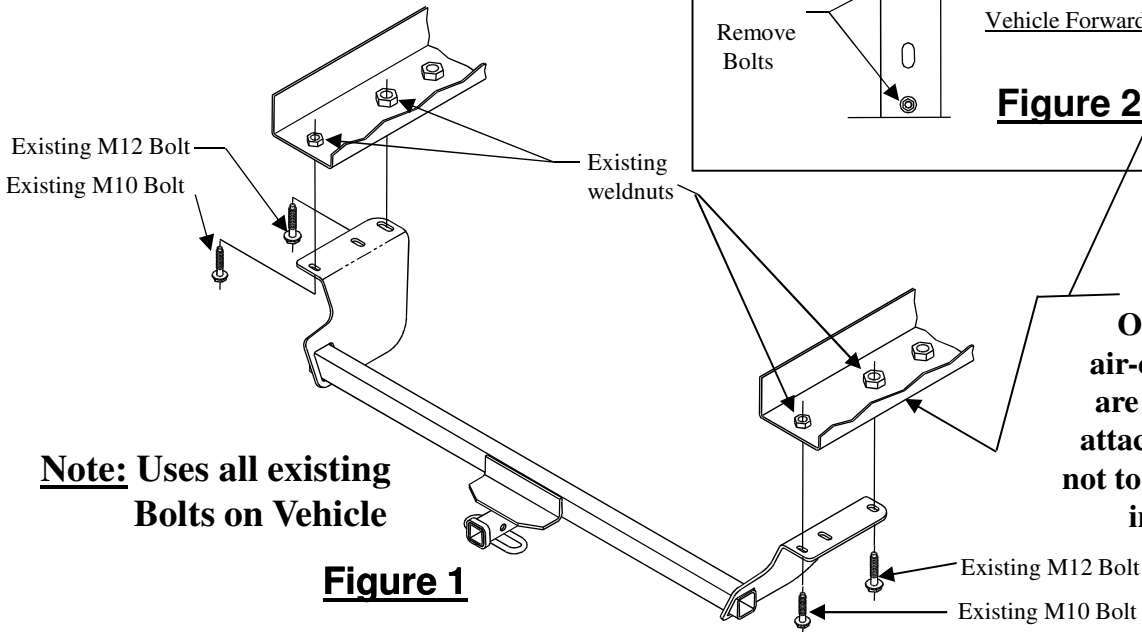

Figure 1
4. Raise hitch into position as shown in Figure 1 and attach with existing bolts removed in step 2. Hand tighten.